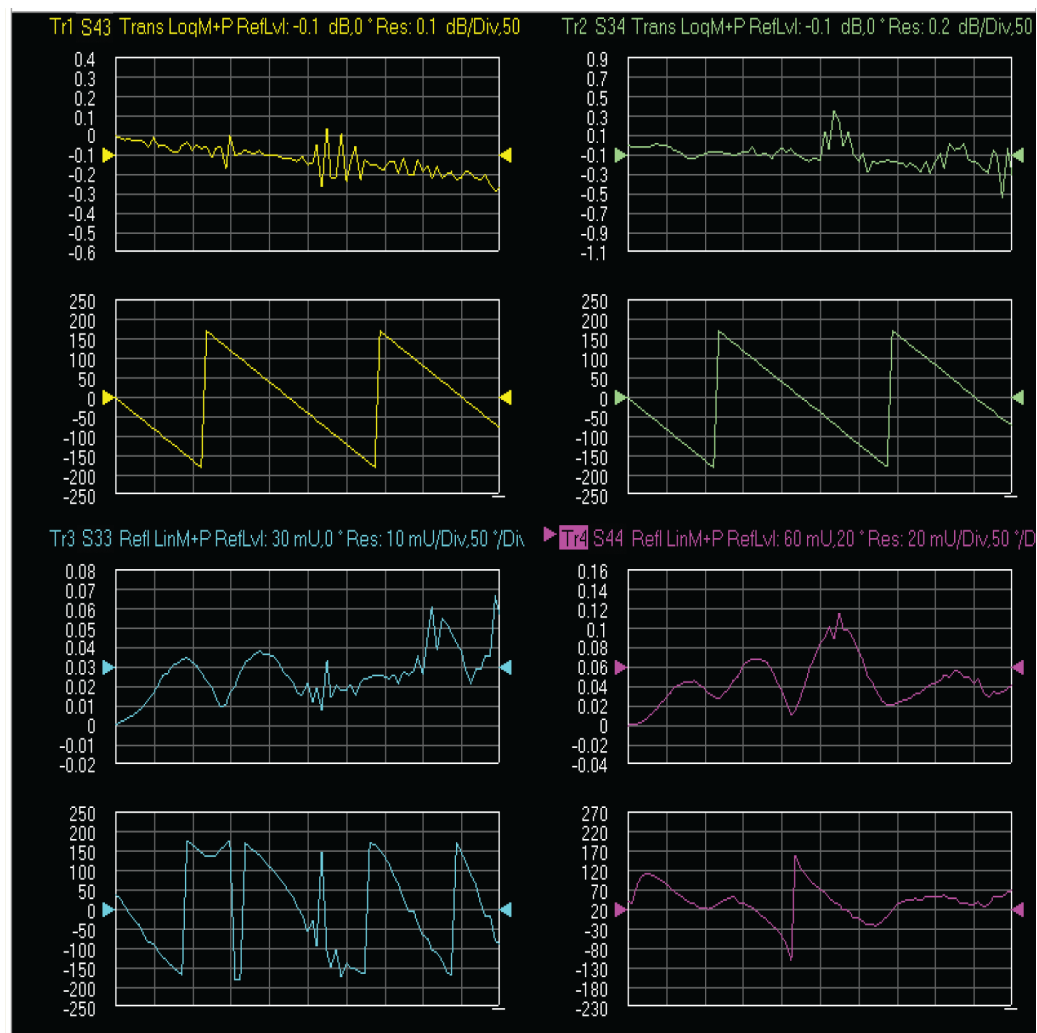

Figure 5-77. MS4640A/B Series VNA, Typical Matched Thru Data in Low Band
8. When the test completes, the next action depends on what the user selected in the Main Menu tab. The VNA main display should be similar to the one in Figure 5-77. This is a typical display immediately after measuring the Matched Thru in the Low Band. Please note this is for reference only and that the actual data on the VNA display may not be identical